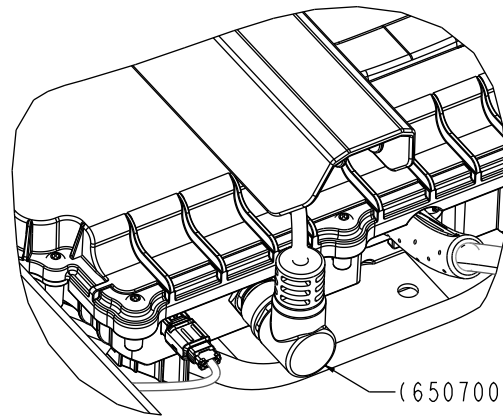

Figure 114 –
7. Remove the FEIB to status external module coil cable assembly (650700080862) (Figure 114).